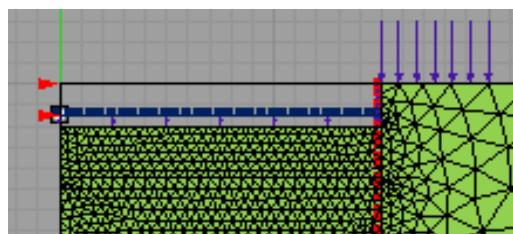

Figure 41. Part of the finite element model at the end of step 2.
6. This completes the simulation of the installation of strut. The model at the end of step 2 is as shown in Figure 41.